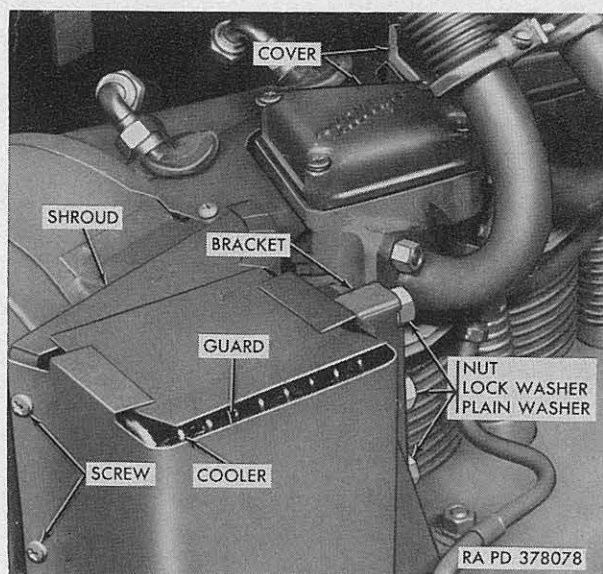

Figure 7. Engine oil cooler and valve rocker covers.
*a. Removal.* Remove two cross-recess-pan-head screws (fig. 7) securing oil cooler guard to engine shroud. Remove three nuts (fig. 7), lockwashers and plain washers from studs securing